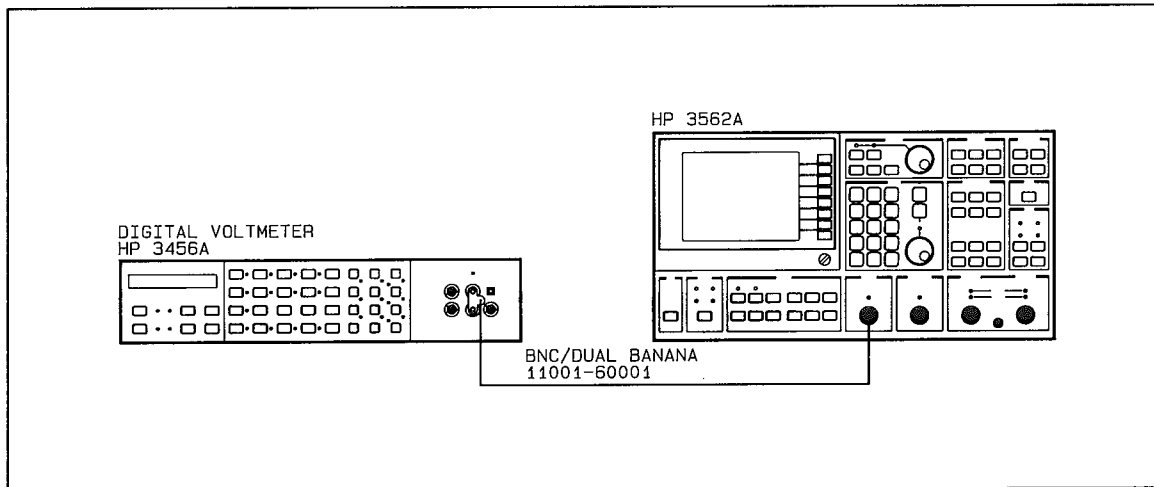

Figure 2-31 Source Residual Offset Test Setup
A. Connect the test instruments as shown in figure 2-31. Refer to "Initial Equipment Setup," paragraph 2-20, for unspecified parameters.